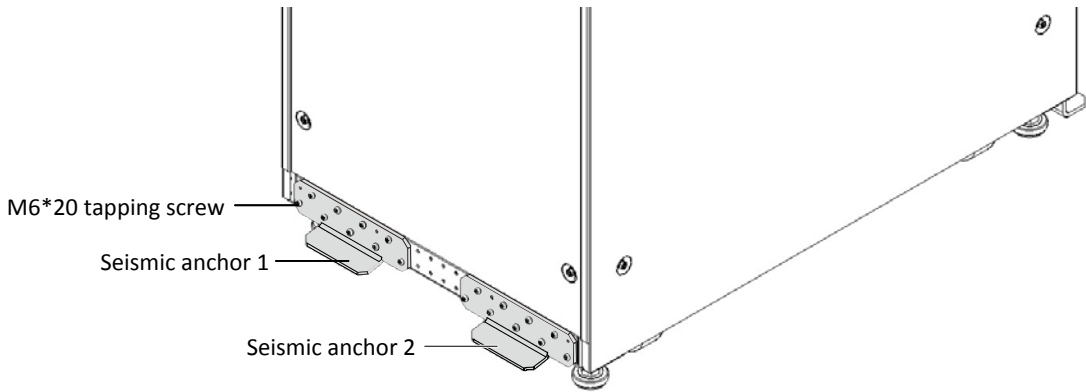

Figure 8-12 Installing seismic anchor 1 and seismic anchor 2
2. Use M6 × 20 tapping screws (18 pcs) to install seismic anchor 1 and seismic anchor 2 on the rear bottom of the UPS cabinet, as shown in Figure 8-12.